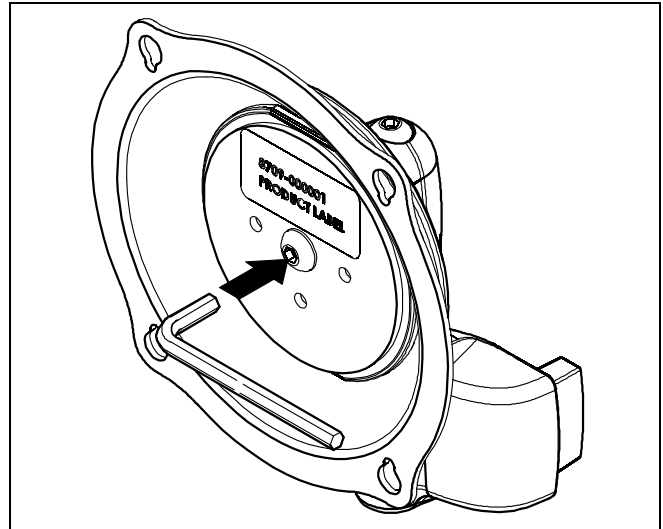

Figure 5
5. Using a hex head wrench, turn the tension adjustment screw clockwise to increase tension, or counter-clockwise to decrease tension. (See Figure 5)